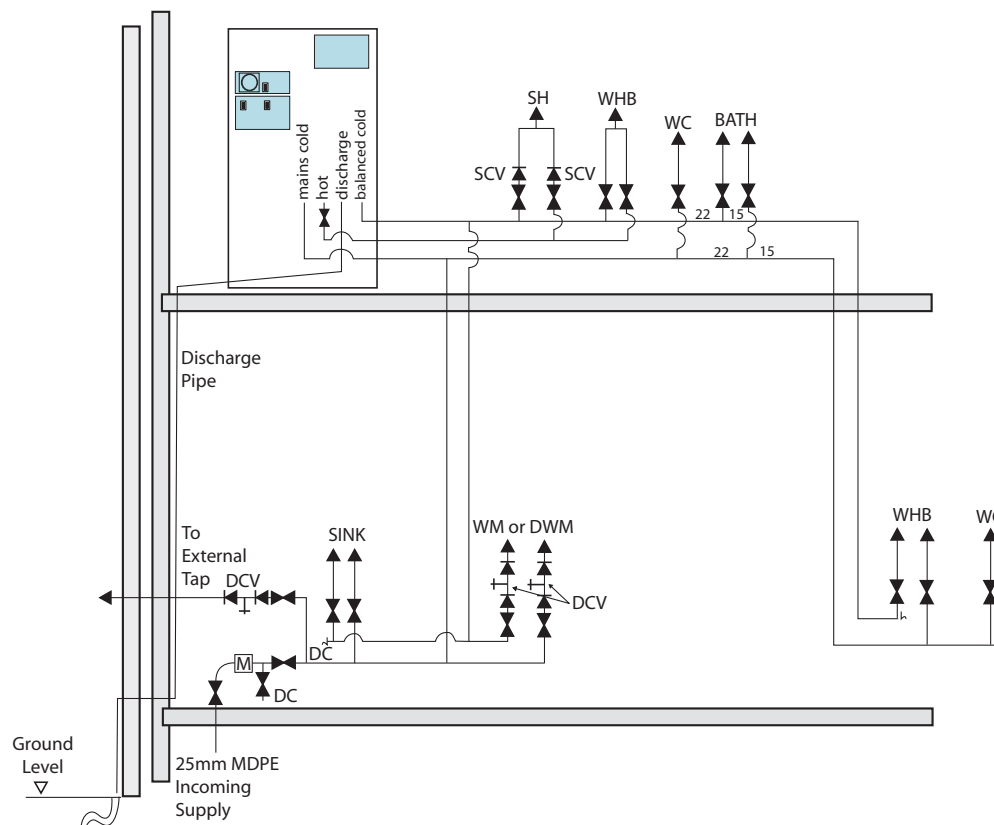

Figure 2.1 Typical cold and hot water network (to a smaller property)
- a. As a minimum it is recommended that the cold supply to the appliance internally is run in 22mm copper or equivalent in plastic and then from the appliance, hot and cold services are in 22mm past the draw-off to the bath as shown schematically in figure 2.1. For large properties bigger sizes will be necessary and these should be proved by calculation in accordance with BS6700.